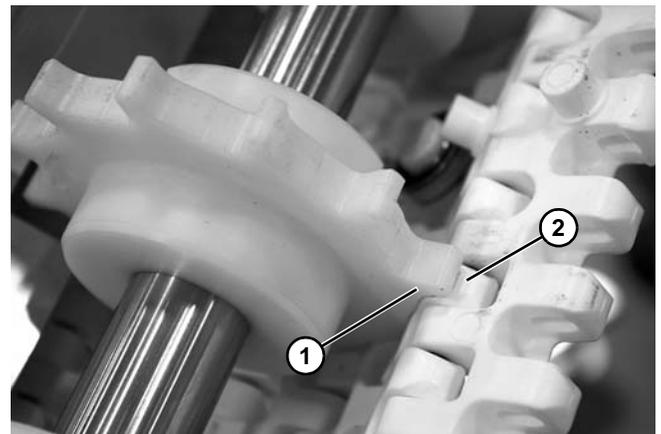

Figure 13
5. Wrap the belt around the drive end of the conveyor. Make sure the sprocket teeth have engaged the belt with the teeth (**Figure 13, item 1**) mating with the rounded section (**Figure 13, item 2**) of the belt.